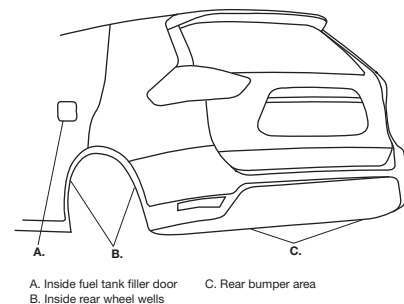

Fig. 15
5. Select a location for the Schrader valve (K), ensuring that the valve will be protected and accessible with an air hose (Fig. 15). Drill a 5/16" (8mm) hole, if necessary. Determine and cut adequate length of air line (C) to reach from the tee to the Schrader valve or from the air springs to the valve if using a dual-path installation.